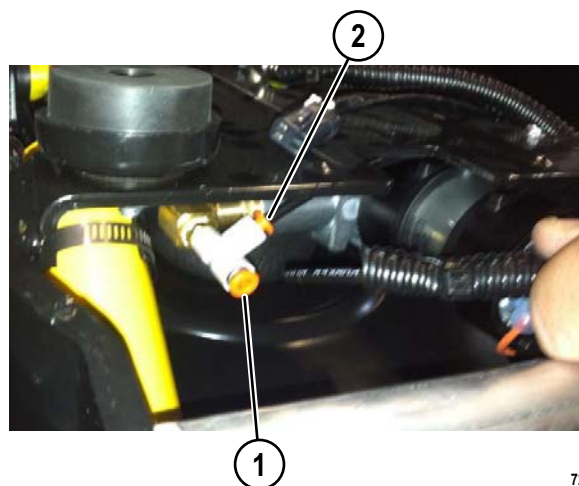

FIGURE 3-21.
15. Place the new compressor in position inside the suspension assembly, then connect the air hoses to the compressor fittings as shown in Figure 3-21.